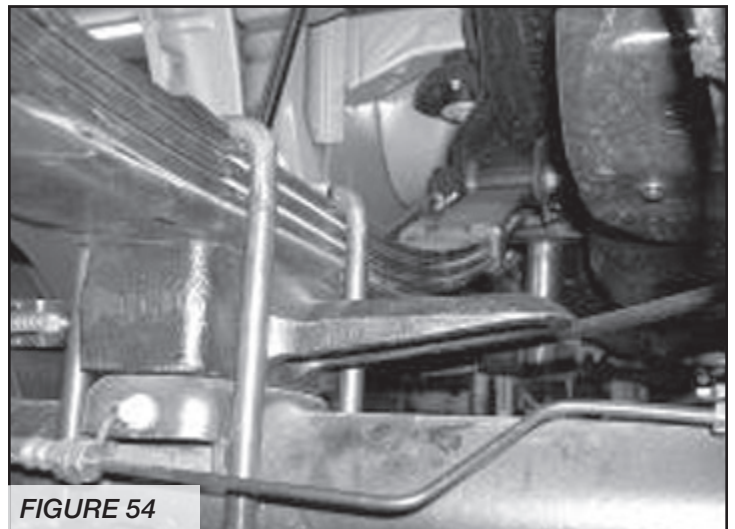

FIGURE 54
50. Locate and install the rear lift blocks FTBK22. The extended bump stop perch will be facing inboard of the truck. Using the Fabtech u-bolts, nuts and washers, align the axle, lift blocks, and springs and torque u-bolts to 129 ft-lbs. **SEE FIGURE 54**